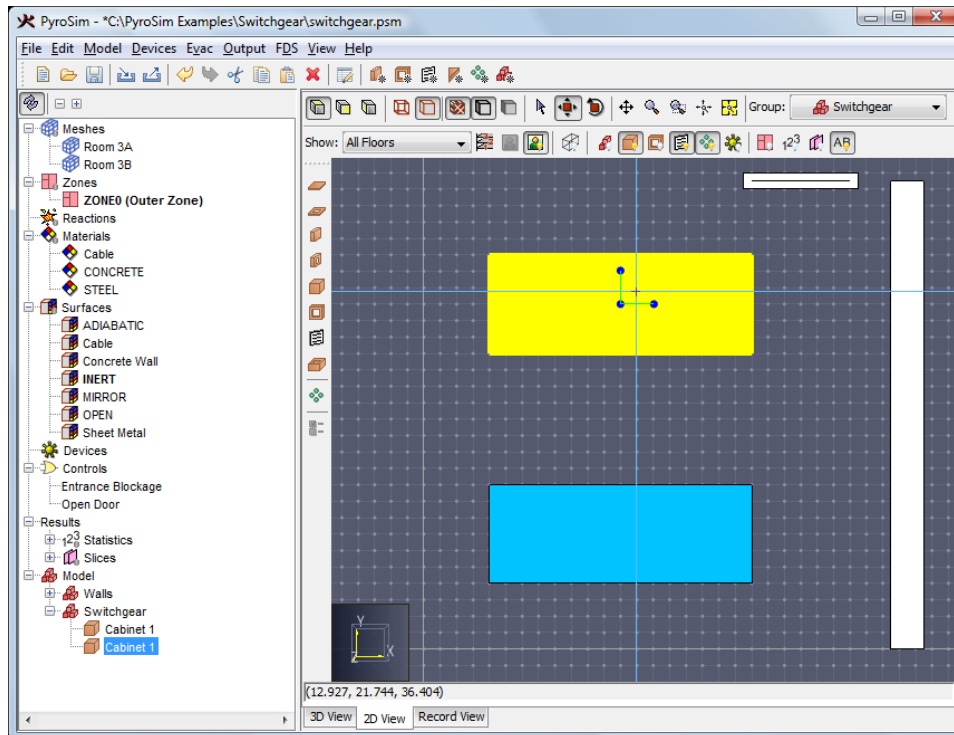

Figure 6.13. Making a copy of Cabinet 1 by dragging. The final position will be 4 feet from the left and top boundaries.
3. Press the **CTRL** key (to create a copy) and drag upward to create a second cabinet, Figure 6.13.